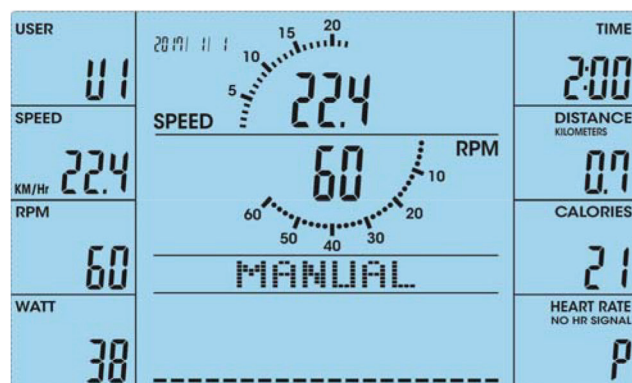

Fig. 17
3. To start the training, press START/STOP (fig. 17).